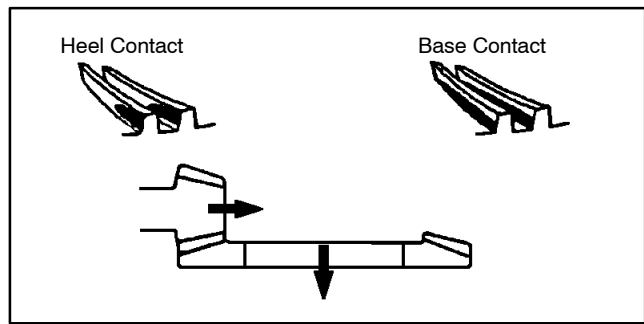

Figure 32
Study the different contact patterns (Figs. 32 and 33) and correct gear engagement as necessary.
1. If contact is toward the heel or base of the gear (Fig. 32):